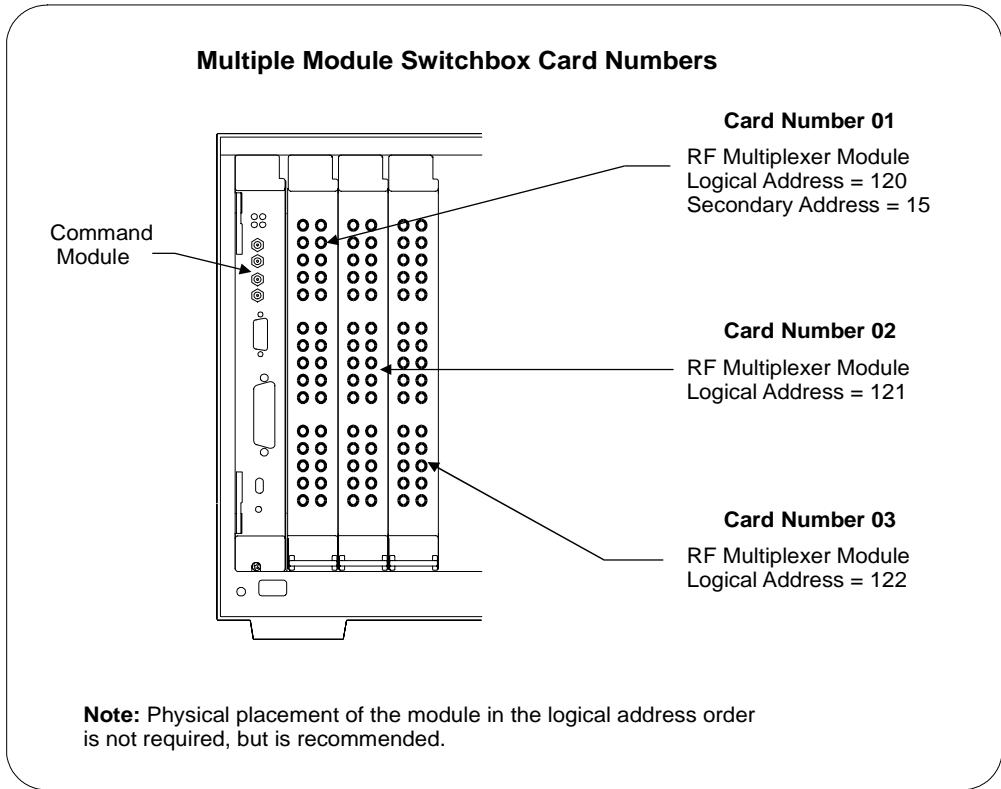

Figure 1-2. Card Numbers for Multiple-Module Switchbox
- **Multiple-module.** For a multiple-module switchbox, the RF Multiplexer module with the lowest logical address is always card number 01. The card number with the next successive logical address is 02, and so on. Figure 1-2 illustrates the card numbers and logical addresses of a typical multiple-module switchbox in an Agilent C-Size Mainframe with an Agilent command module. For uses in other systems or mainframes, see the appropriate manuals.